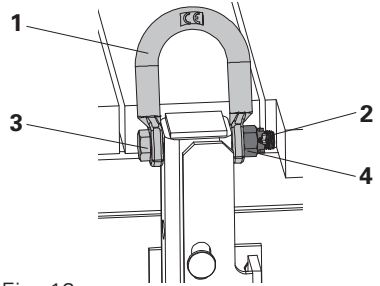

Fig. 16
1. Remove Split Pin (2).
2. Loosen Castle Nut (4) by turning anti-clockwise and remove from Bolt (3). (Fig. 16)